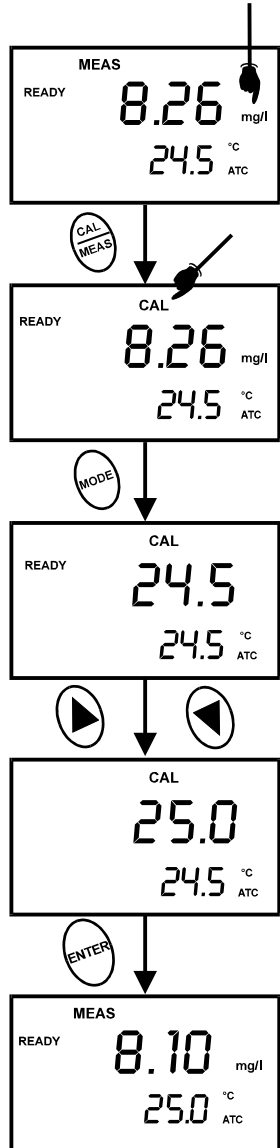

Figure 5: Temperature calibration
5. Wait for the measured pH value to stabilise. See Figure 5.